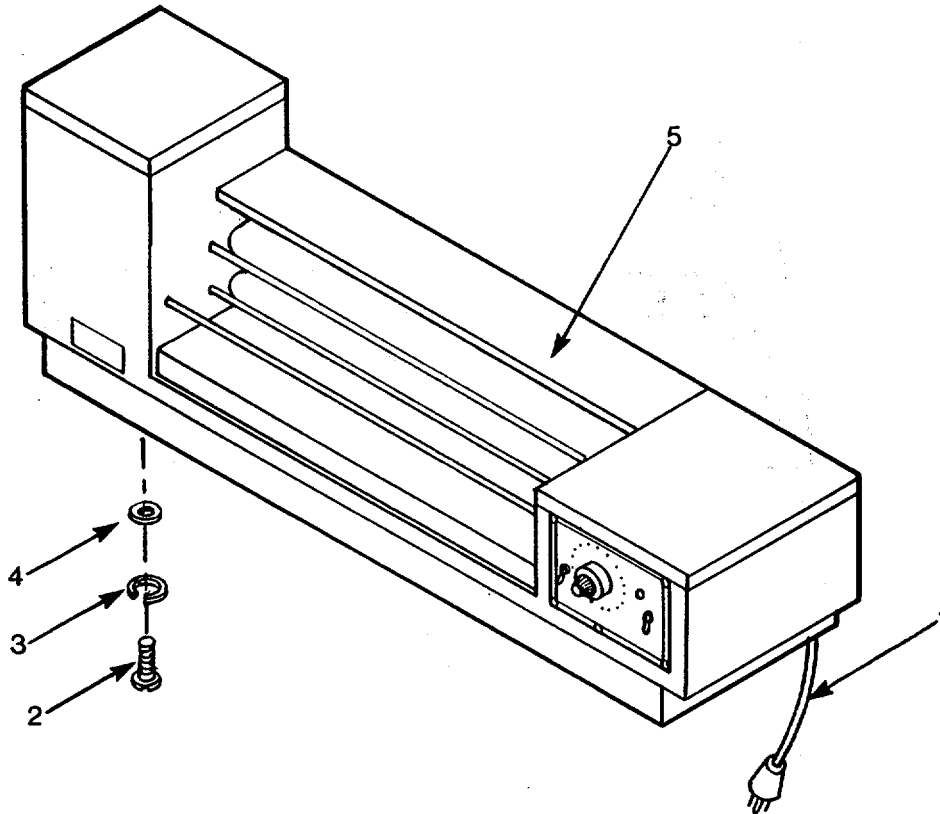

Figure 4-13. Film Dryer Assembly
a. Inspect. (See Figure 4-13.)
- (1) Check darkroom film dryer for security and general condition.
- (2) Check dryer shelf for security and general condition.
b. Replace. (See Figure 4-13.)
- (1) Disconnect film dryer power cord (1).
- (2) Remove screws (2), lockwashers (3), and flat washers (4) securing dryer to shelf.
- (3) Remove dryer (5).
- (7) Install and secure film dryer shelf (2) with rivets (1).
- (8) Position dryer (5, Figure 4-13) and secure with flat washers (4), lockwashers (3), and screws (2).
- (9) Connect power cord (1).